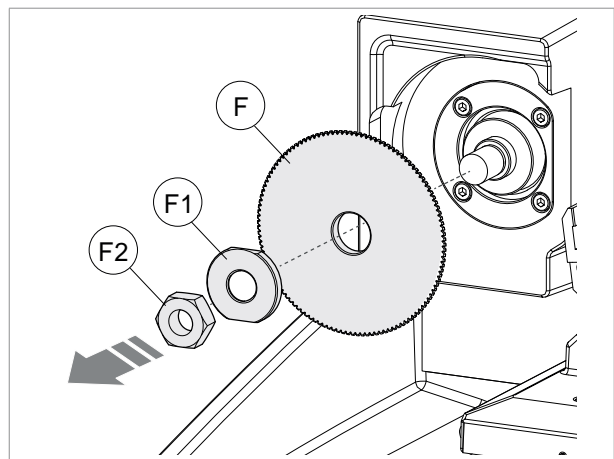

Fig. 150
- 5) Remove the nut (F2), hex washer (F1) and cutter (F) (Fig. 150).
- 7) Fit the new cutter (F), paying attention to the direction of rotation.